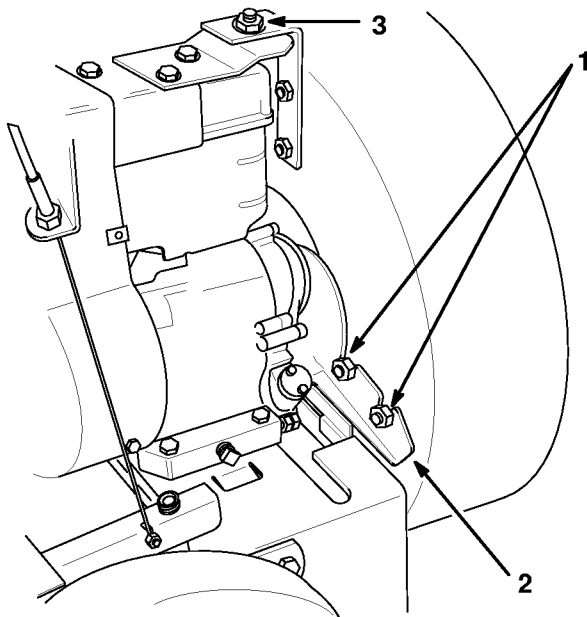

Figure 27
7. Loosen two locknuts securing blower housing to stabilizer bracket (Fig. 27).
8. Remove the flanged locknut securing the blower housing and lift the housing as much as the impeller allows (Fig. 27).